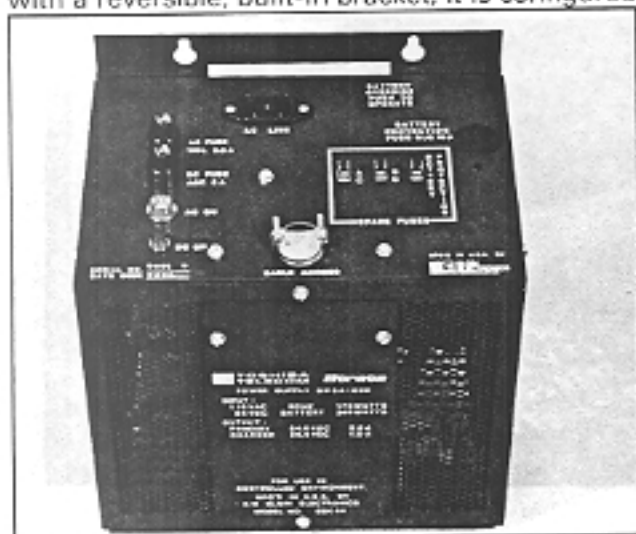

FIGURE 1—MPSA-200
01.01 The MPSA-200 (Figure 1) is equipped with a reversible, built-in bracket; it is configured